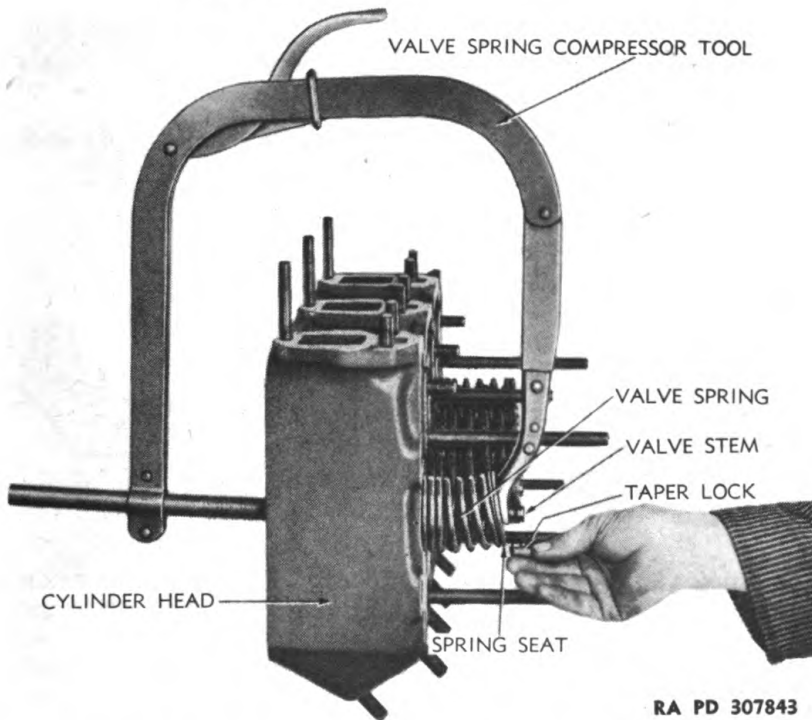
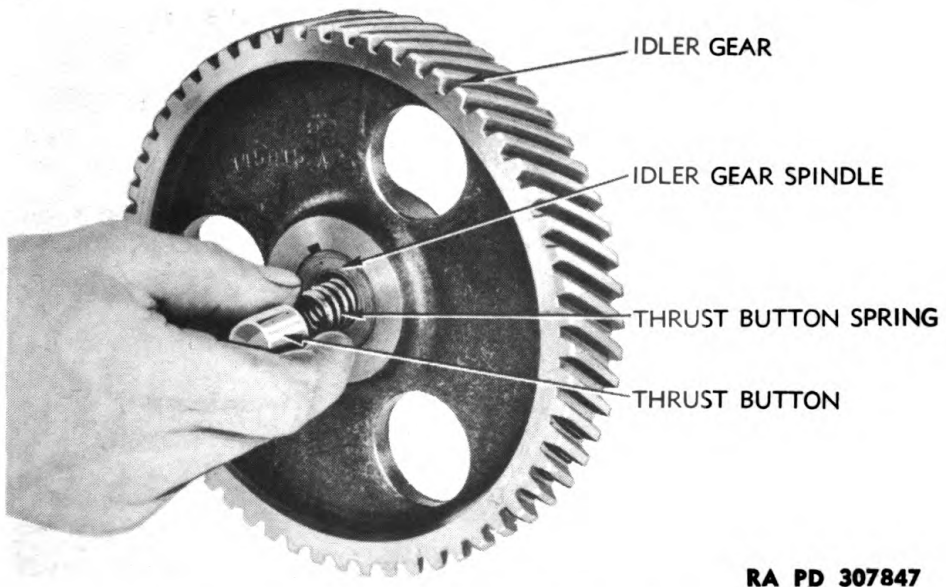
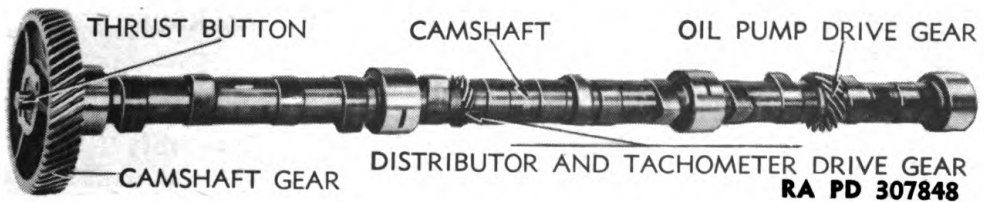

Figure 38 — Removing Valve Taper Locks, With Tool 41-L-1408
Figure 42 — Removing Thrust Button and Spring From Idler Gear
Figure 43 — Camshaft Assembly
e. Disassemble Cylinder Head Assembly. Remove spark plugs from cylinder head using wrench (41-W-3328) (fig. 42). Turn cylinder head on side and compress valve spring with a valve lifter tool (41-L-1408) as shown in figure 38 until the taper locks can be removed from end of valve stem. After removing the taper locks (two halves), remove valve lifter tool, then remove valve spring seat
g. **Disassemble Idler Gear Assembly** (fig. 42). Remove thrust button and spring from recess in spindle. Press spindle out of gear, then remove key from slot in spindle.
h. **Disassemble Camshaft Assembly** (fig. 43). Remove the thrust button and spring from recess in end of shaft in same manner as from idler gear shaft (fig. 42). Install shaft and gear in arbor press and press shaft out of gear. Remove key from slot in shaft.